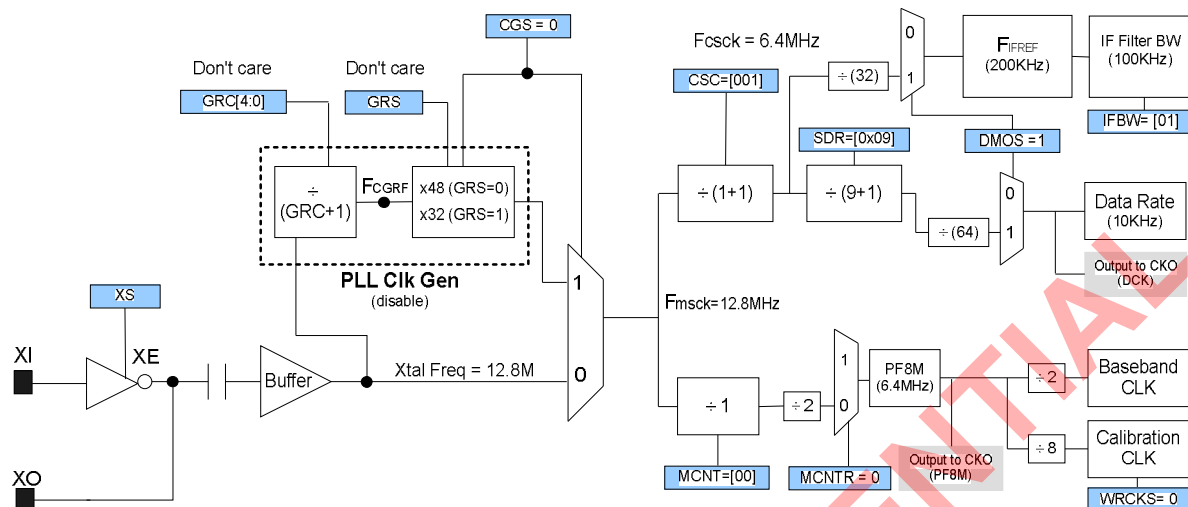

Figure 12.3 Configurations of 10Kbps when IFBW = 100KHz
5. If choosing IFBW = 100KHz, figure 12.3 illustrates the different results of CSC and F_{CSC} .